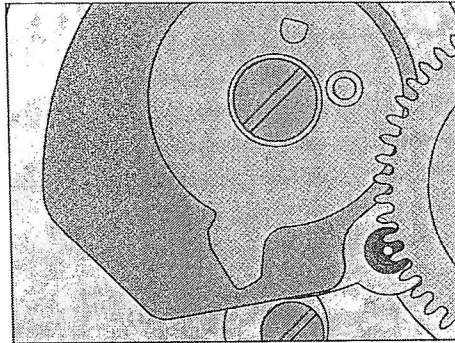

Fig. 15
- 9.4. Drive the beak of the finger for calendar to the 6 o'clock position, see Fig. 15, while turning the winding stem, then remove the seating for indicator (No. 3155-600) fixed with 4 blue screws (No. 3135-5600), 3 on the circumference and the 4th one near the beak of the date jumper.